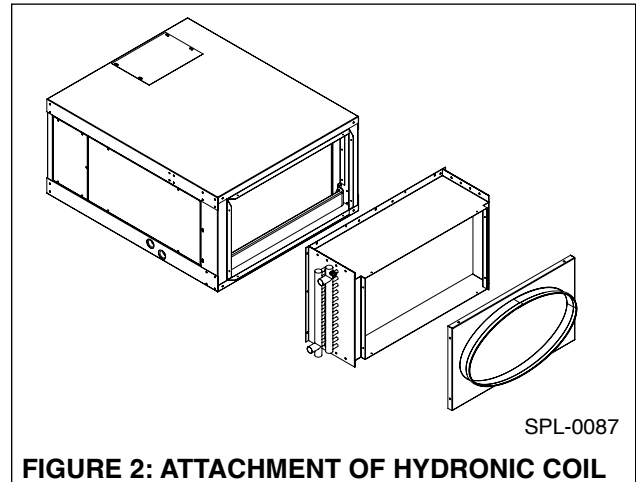

FIGURE 2: ATTACHMENT OF HYDRONIC COIL
7. Attach return air panel to coil using removed screws as shown in Figure 2.